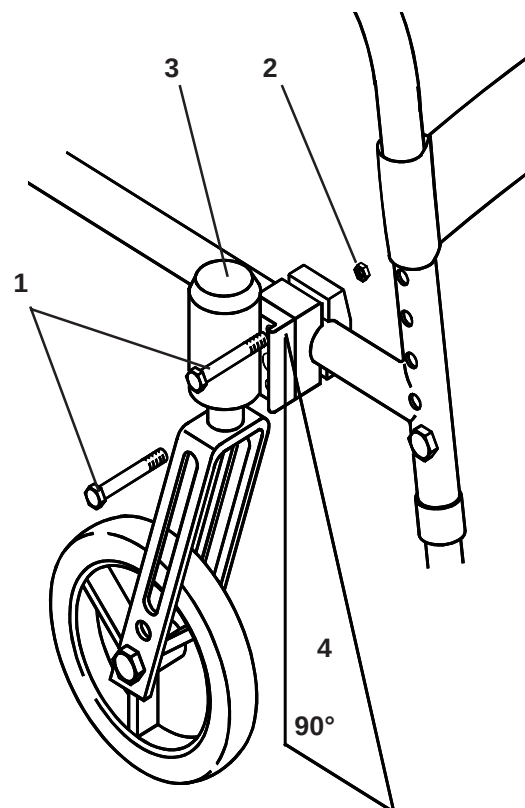

Fig. 50
Place the chair on a flat surface (such as a table). Loosen the two eccentric bolts (1) and 10mm A/F nuts (2) that secure the castor assembly (3) to the frame (4). See Fig. 50. Follow the procedure detailed on page 34 for angle adjustment. (Fixed front frame).